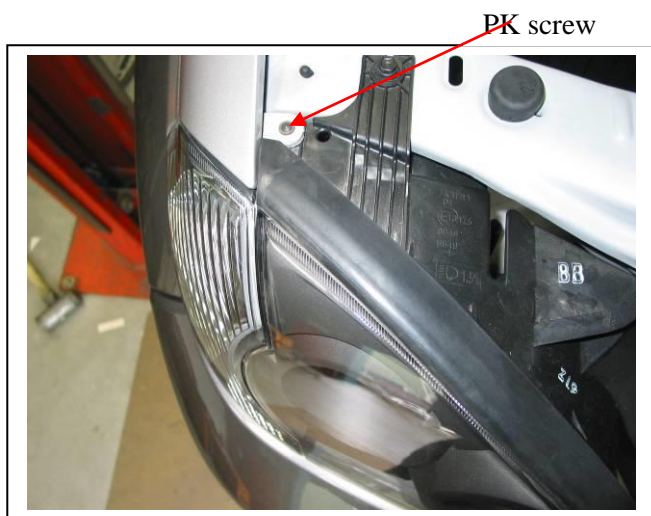

Figure 1
3. Remove indicators, one PK screw in top of headlight. Lift tab over headlight and pull straight out. **See figure 1.**